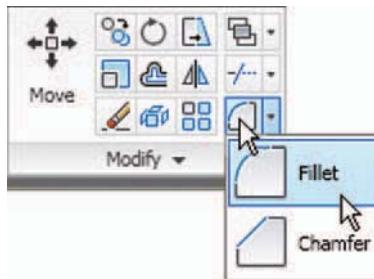

Fig. 5.41 Select **Fillet** from the menu in the **Home/Modify** panel
2. Call **Fillet** – click the arrow to the right of the tool icon in the **Home/Modify** panel and select **Fillet** from the menu which appears (Fig. 5.41), pick its tool icon in the **Modify** toolbar, pick **Fillet** from the **Modify** drop-down menu, or enter **f** or **fillet** at the command line which then shows: